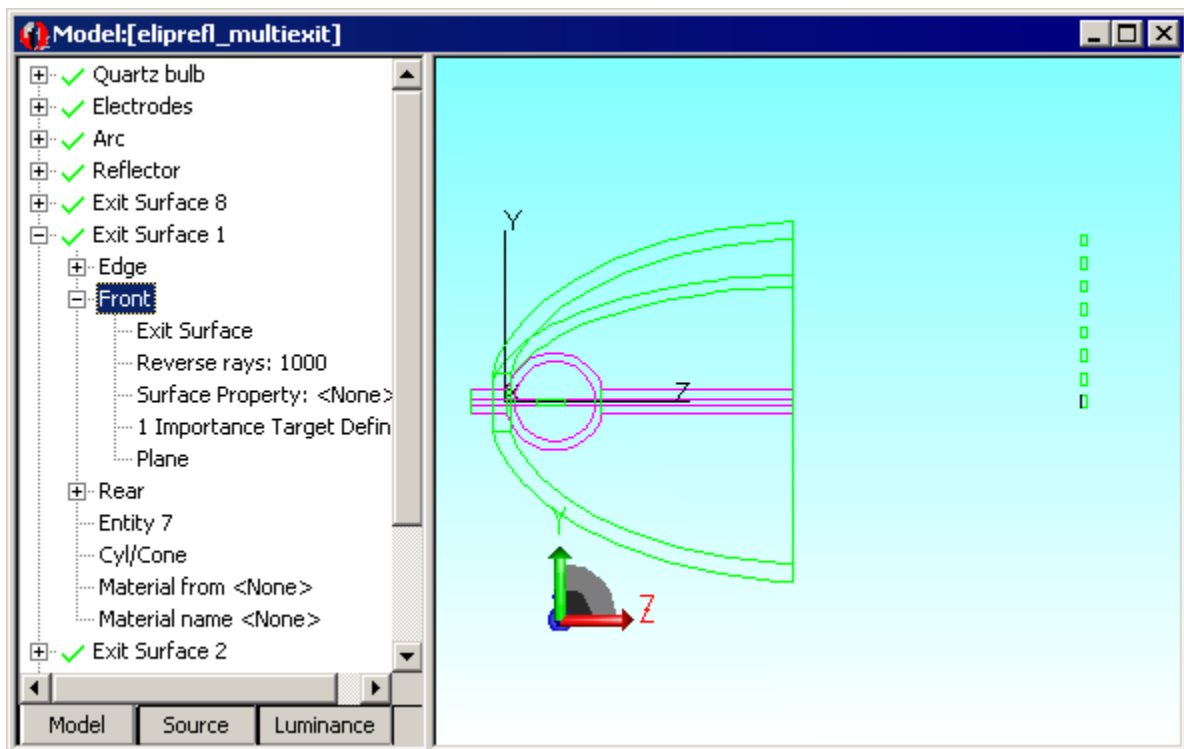

FIGURE 9.68 - Completed model with multiple exit surfaces.
3. Selecting the Front surface and making it an Exit Surface as in Figure 9.68.
Open the System Tree and rename the objects so that they are named Exit Surface 1 through Exit Surface 8. Label the one at $y = 0$ as Exit Surface 1, the one at $y = 40$ as Exit Surface 2, etc. The completed model is shown in Figure 9.68. Select **File|Save** to save the model.